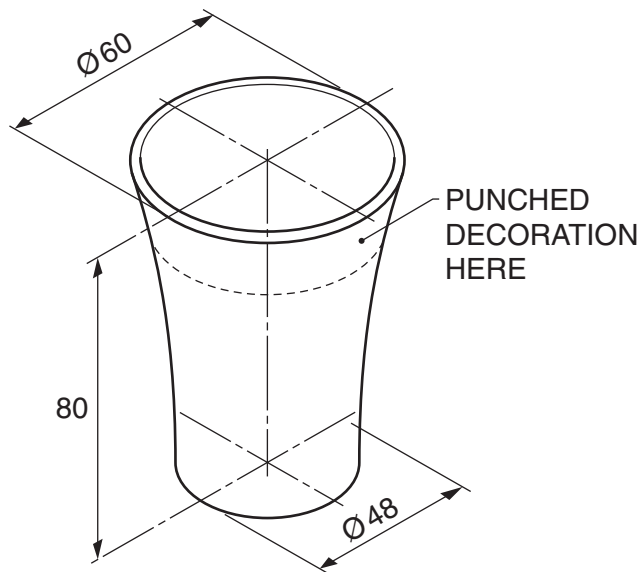

Fig. 8
- 5 A small vase is to be made from 18 SWG (1.2 mm) gilding metal. It has already been **raised** to the shape shown in Fig. 8.